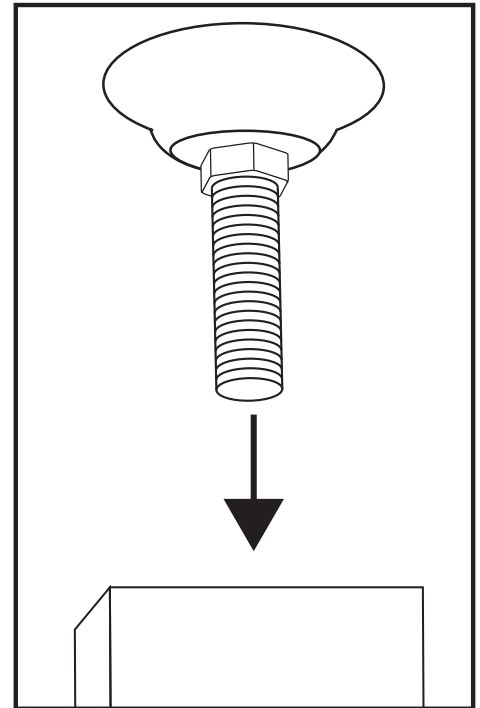

Figure 4
4. Attach the feet (#5) to each of the four corners by screwing them into the threaded reciever at the bottom at each corner. (see figure 4)